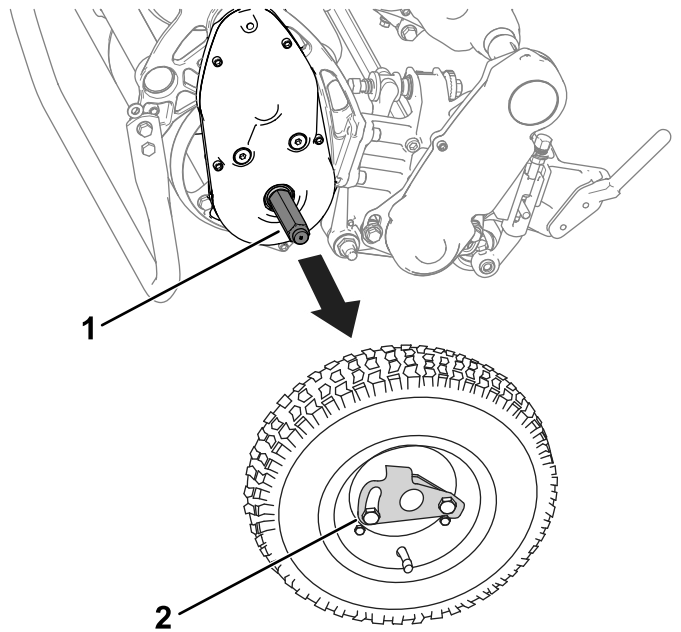

Figure 22
3. Remove the transport wheels by pushing the wheel-locking clips out of the axles (Figure 22).